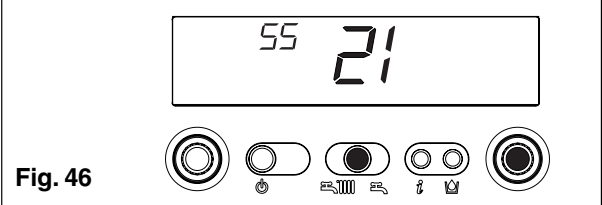

Fig. 46
- press ENTER to confirm the new value. The digits stop flashing (fig. 46)